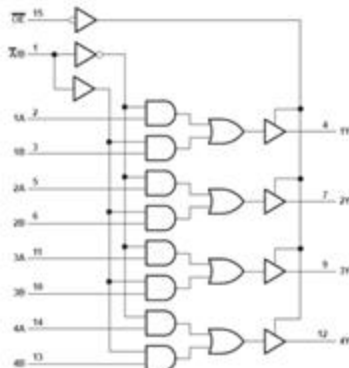

Figure 6: Pin layout for the Quad 2-to-1 MUX Chip (SN74HCT257N).
- Place the chips as shown in Figure 6.